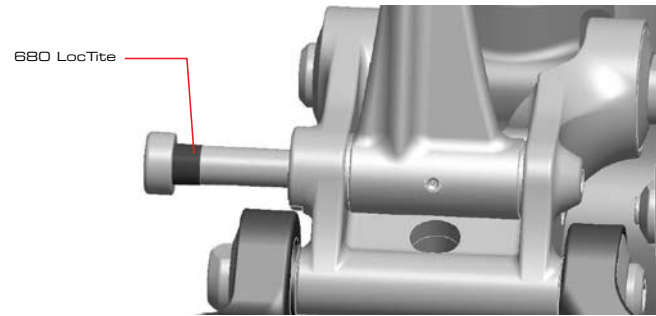

Fig.10
3. Install the Equilink. The link is not symmetrical so it can't be installed in the wrong direction. Slide the ends of the link, along with the press in polymer washers, into the lower link and then between the shock links. Install the fixing bolts. Be sure to apply a small amount of 680 Loctite to the shoulder of the Equilink bolt (see fig. 10) Tighten to the torque indicated on the links.